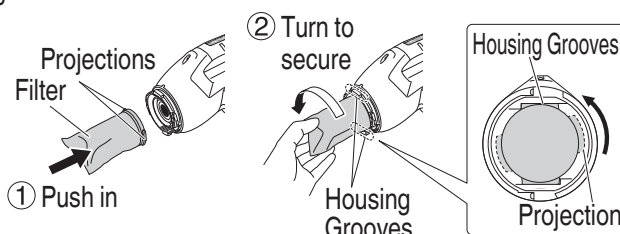

Fig. 11
(4) Install the filter (**Fig. 11**)